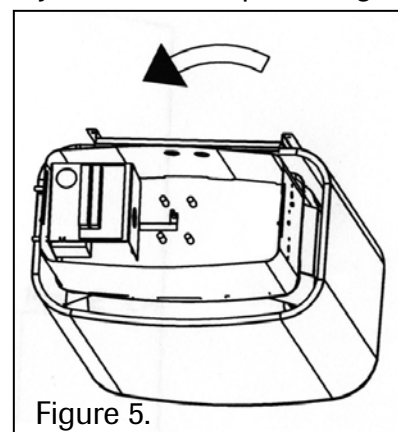

Figure 5.
- Finally, attach the bottom plate of the junction box and adjusters to their place (Figure 5).